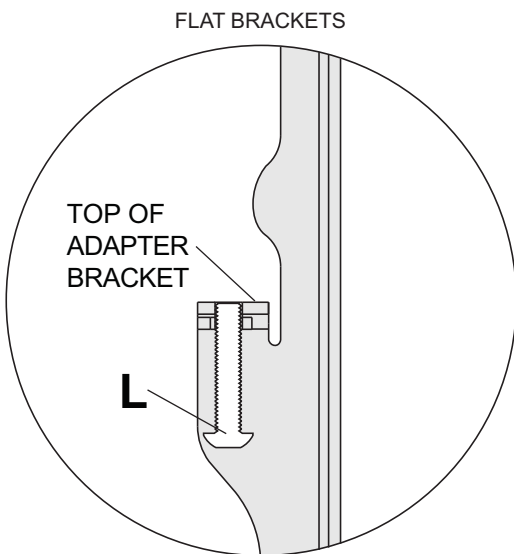

fig 1.1
Replace safety/security screws with M5 x 25 mm screw (L). Hand thread screw into bottom of flat or tilt adapter bracket as shown in figure 1.1 and 1.2.